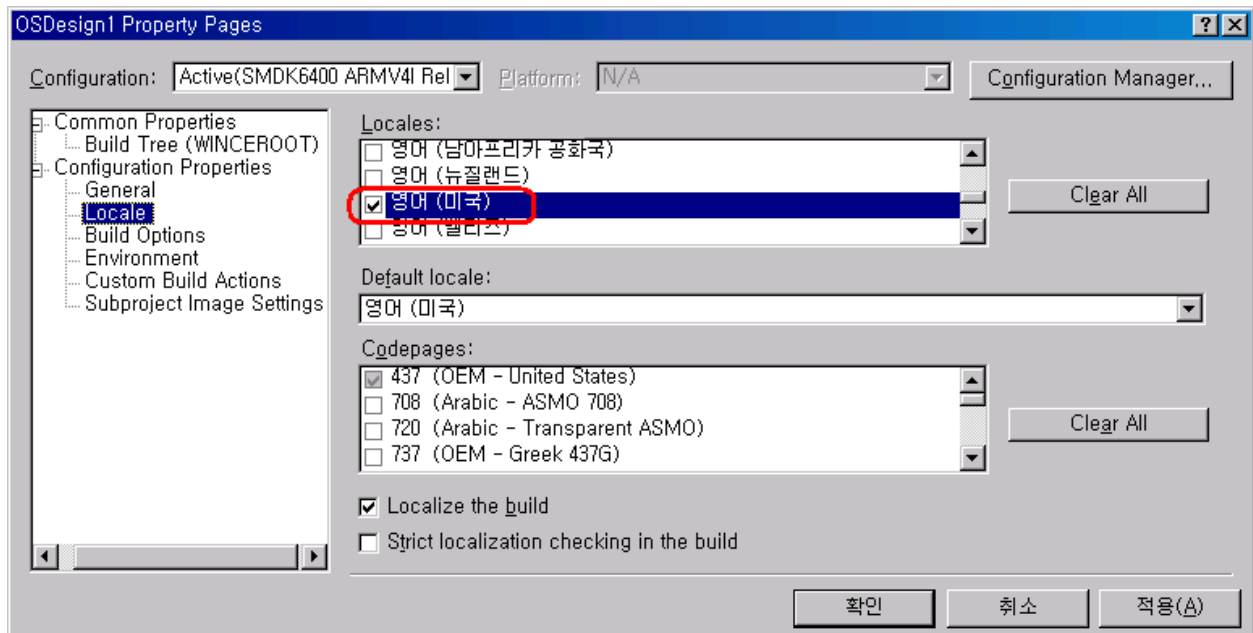

Figure 4-10 Selecting Language in the Property Pages Window
10. The OS Design Properties Pages window appears on your screen. Select **Locale** tab and click **Clear All** button. It clears all the language settings in your platform. Now select **English (United States)** as shown in figure 4-10.